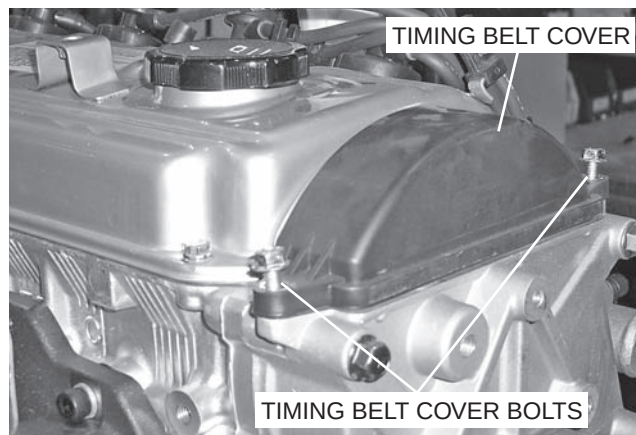

Figure 17
10. Re-install the upper timing belt cover on the engine and torque the timing belt cover bolts to 8 ft-lbs or 11Nm (Figure 17).